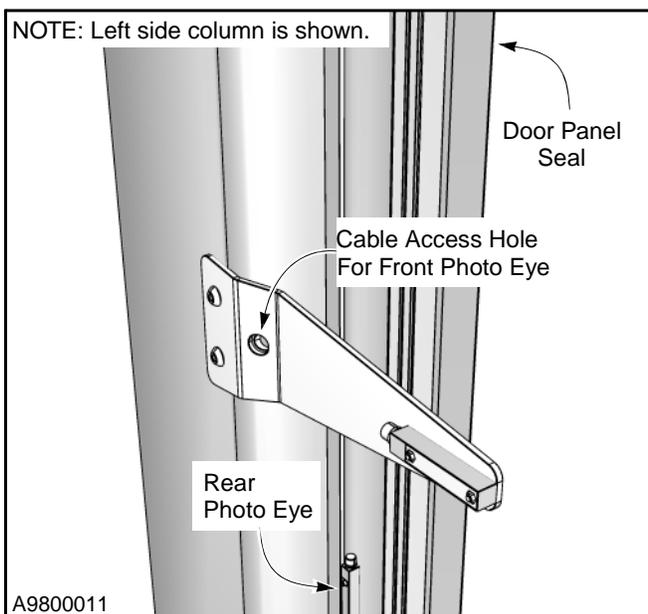

Figure 24
3. Connect photo eye cable to rear photo eye. (See Figure 24)